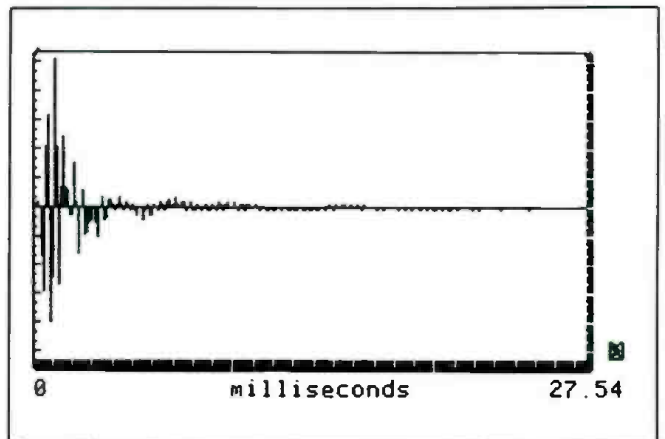

Figure 8. Genrad impulse response.
exhibited here. A simple vibration pick-up was fabricated with a 20cm(2) piece of PVDF film. The transducer was applied to a Bodysonic low-frequency coupler (12), which in turn reproduced an impulse. For comparative purposes, a Genrad type 1560 accelerometer was also used to pick-up the output of the Bodysonic transducer. *Figures 8* through *11* show the respective impulse responses, as well as power spectrum of each vibration pick-up. The advantage of the PVDF film is its ease of attaching to any shape surface, while at the same time not contributing any mass to the structure to which it has been applied. As a last example, a